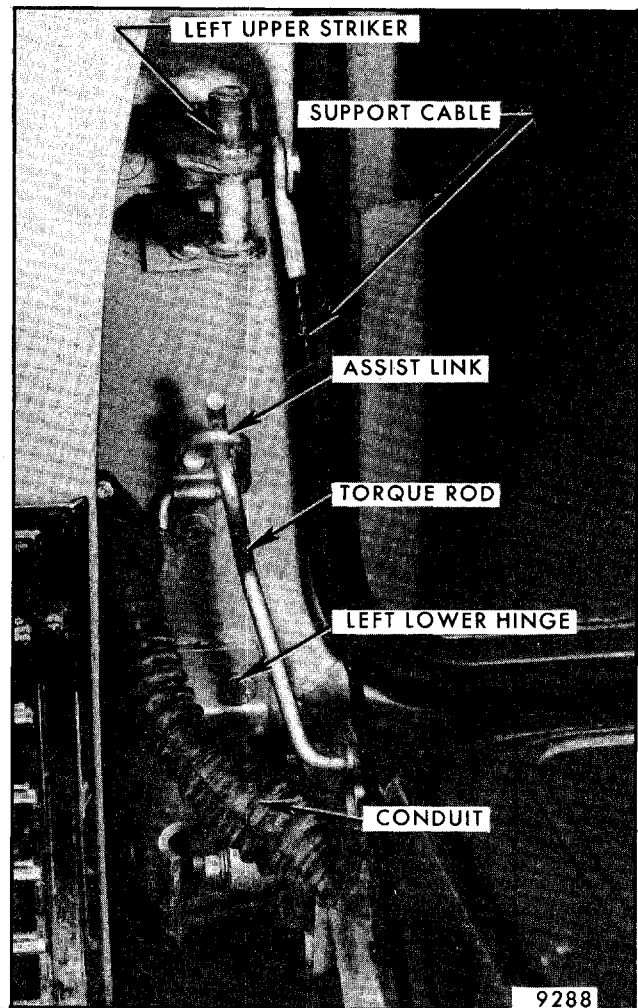

Fig. 7-152 - Tailgate Left Upper and Lower Lock Assemblies
TAILGATE LEFT LOWER HINGE ASSEMBLY (Figs. 7-152 and 7-153)
TAILGATE LEFT UPPER HINGE AND STRIKER ASSEMBLY - BODY SIDE (Fig. 7-152)
1. Open tailgate sufficiently as a door to achieve a neutral torque rod position or until tension on torque rod has been relieved. With torque rod in a neutral position, remove torque rod assist link retainer to body attaching bolts (Fig. 7-152). Close tailgate and open as a gate.
4. With the aid of a helper, remove left lower hinge to body attaching bolts (Fig. 7-152) and disconnect electrical harness connector. Remove screws retaining electrical conduit at body attachments.